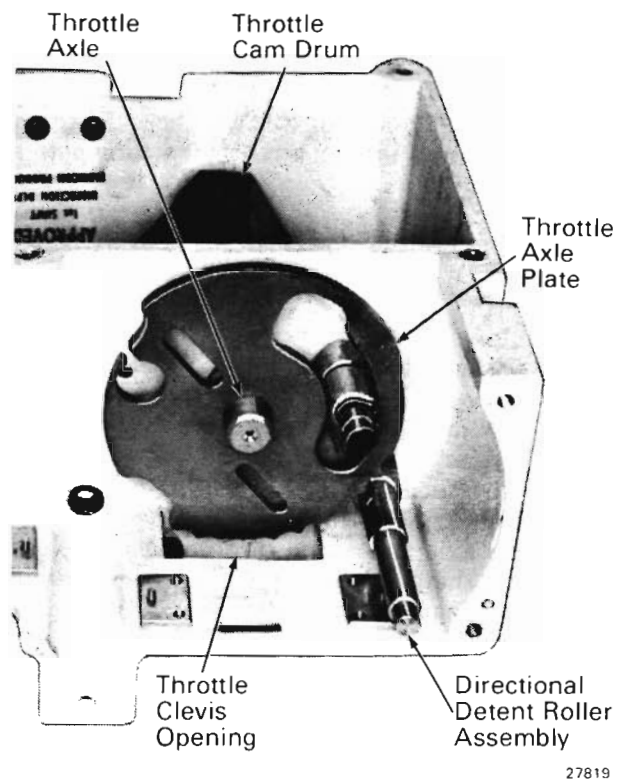

Fig.18 - Directional Detent Roller Assembly Installation
5. Move throttle axle inward until axle plate clears throttle clevis opening at rear of housing, Fig. 18.